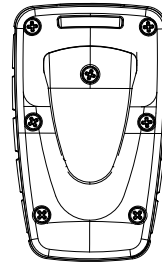

Figure 22. Battery cover and the screws holding the cover
1. Open the battery cover by unscrewing the 6 screws on the backside of the transmitter housing (see fig. 22).